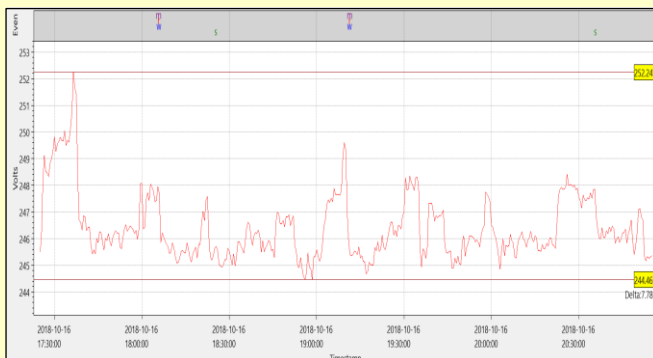

Figure 2: CITRUS – RMS voltage profile
- AC voltage and mains signalling measurements. See Figures 2 and 3.